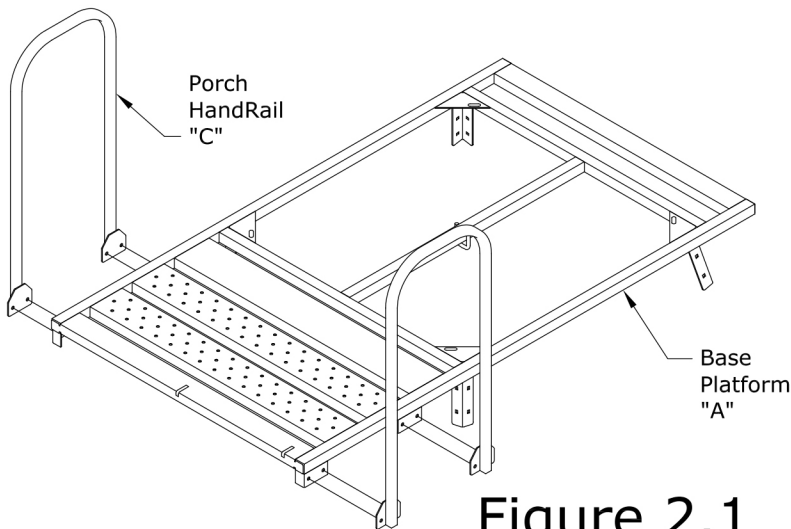

Figure 2.1
STEP 2: Locate the base platform "A". Install (2) Porch Hand Rails "C" onto the base platform as shown in Figure 2.1 using the typical hardware connection in (8) places.